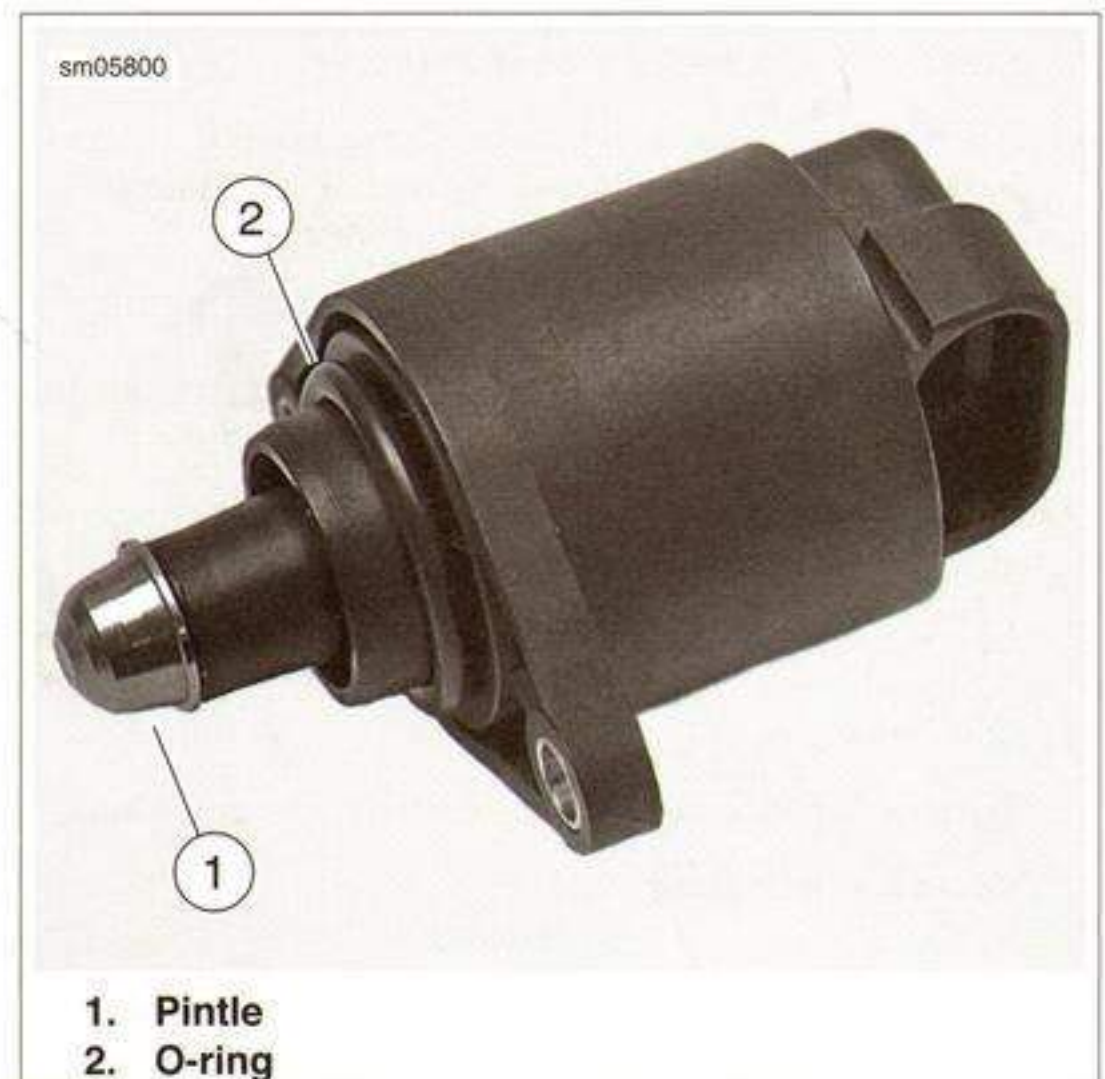

Figure 4-26. IAC Actuator
1. See Figure 4-26. Inspect the pintle (1) on the actuator and the seat in the throttle body housing. Replace as required.
2. Check the O-ring (2) on the actuator. Replace as required.